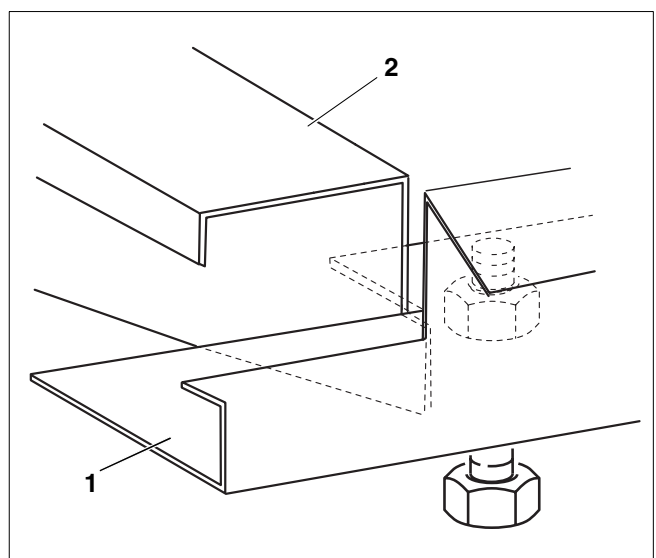

Fig. 38 Hooking longitudinal rail onto cross-member
- Hook the cut-out at the front of the longitudinal rail (Fig. 38, **ref. 1**) onto the cut-out in the cross-member (Fig. 38, **ref. 2**).